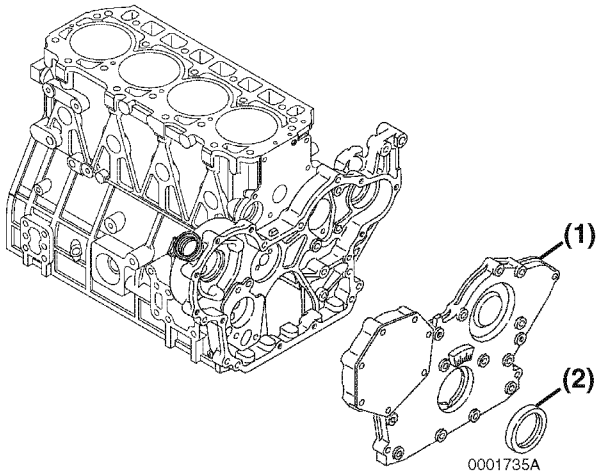

Figure 6-84
1. Apply ThreeBond Liquid Gasket, Yanmar Part No. 977770-01212 to the outside diameter of a new oil seal (**Figure 6-84, (2)**). Use oil seal insertion tool to install the seal. Apply lithium grease to the lip of the seal.
2. Apply ThreeBond Liquid Gasket, Yanmar Part No. 977770-01212 to the mounting area of the gear case cover (**Figure 6-84, (1)**).